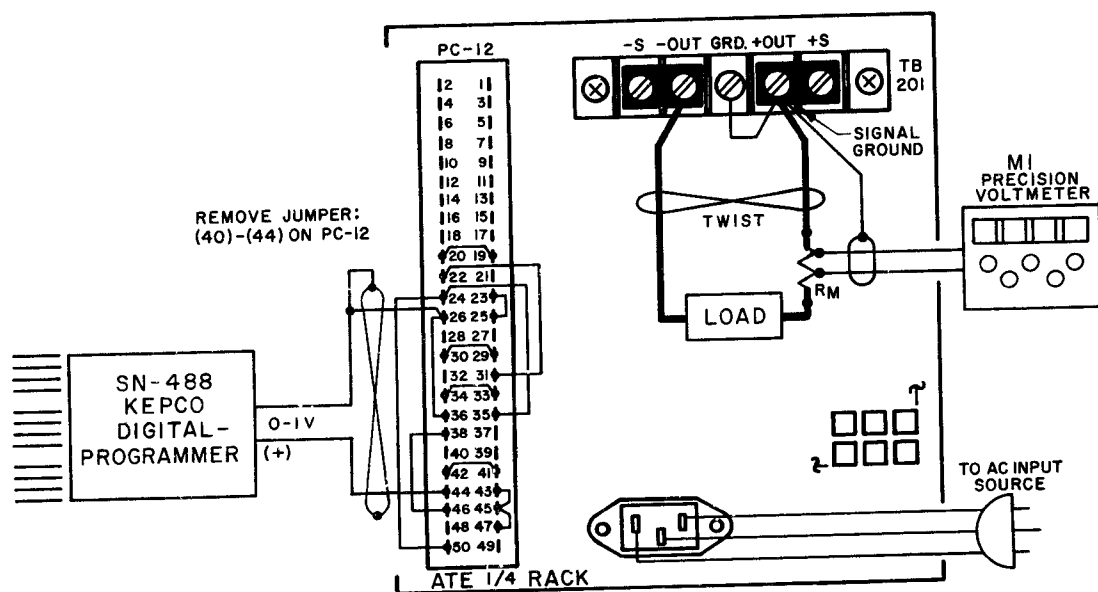

FIG. 3-11 CONNECTIONS FOR OUTPUT CURRENT CONTROL WITH A 0-1 VOLT CONTROL SIGNAL (KEPCO SN-488 DIGITAL PROGRAMMER).
- 3-58 GENERAL. The ATE output current, controlled by a front panel CURRENT CONTROL rheostat in the local control mode, can be remotely controlled by disconnecting the 15V bias from the non-inverting input of the EXT. CURRENT COMPARISON AMPL at the REAR PROGRAMMING CONNECTOR, and applying a 0 to 1 volt external control signal with reference to the ATE COMMON terminal. Since the non-inverting input of the EXT. CURRENT COMPARISON AMPL is used, only the small amplifier bias current must be supplied by the external control source. IN ALL CURRENT PROGRAMMING APPLICATIONS, THE FRONT PANEL CURRENT CONTROL SETTING OF THE ATE ACTS AS A "BACK-UP" CURRENT LIMIT AND MUST BE SET SLIGHTLY HIGHER THAN THE REQUIRED MAXIMUM OUTPUT CURRENT. An application, demonstrating this control method is described in PAR. 3-60 and illustrated in FIG. 3-11.
- 1) Connect the EXT. CONTROL VOLTAGE, (Model SN-488 Digital Programmer), the LOAD and the PRECISION VOLTMETER (M1) to the ATE as shown in FIG. 3-11.
Note: The output current value can be measured directly by means of a suitable ammeter in series with the load or, as indicated in FIG. 3-11, indirectly by means of the precision voltmeter (M1) across a current measuring resistor (R_M). R_M should be selected such that a convenient range on the precision voltmeter can be used, e.g., for a 10 ampere output current, use a 0.1 ohm, resistor to produce a one volt full scale reading. If an electronic voltmeter is used, it should be battery-operated to avoid ground loops.